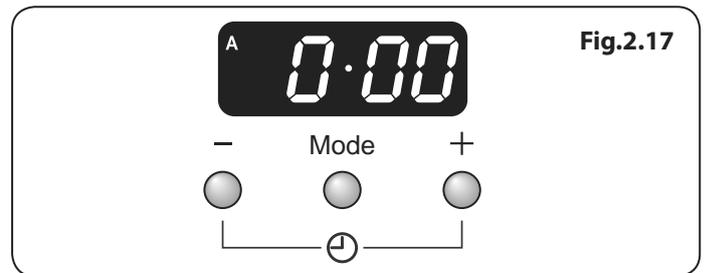

Fig.2.17
1. The LCD clock is shown in **(Fig.2.17)**. Once the cooker is connected and switched on, the [A] symbol flashes in the display.